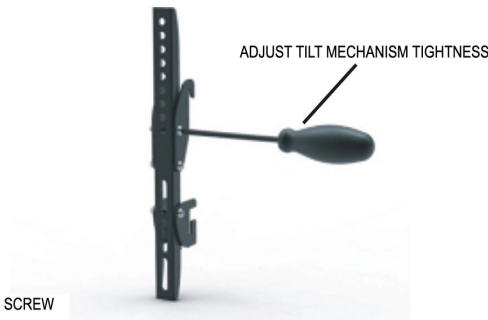

Figure 10
4. Tighten the top two screws to secure the tilt angle (Figure 10).